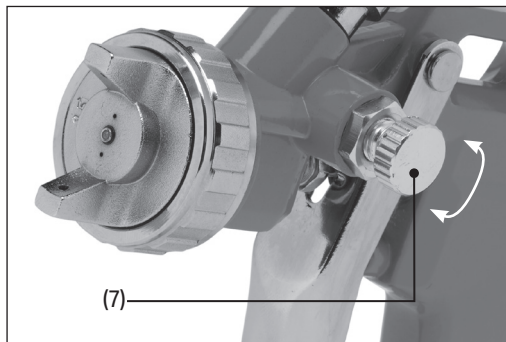

Fig. 7
The spray control dial (7) adjusts the shape of the paint jet released from the nozzle. The spray control dial can be rotated more than 360° (Fig. 7).